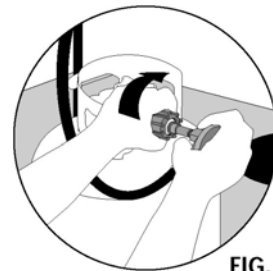

FIG. 4
- Insert the nipple of the valve coupling into the tank valve and tighten the connection collar by turning it clockwise with one hand while holding the regulator with the other (see Fig.4 ).